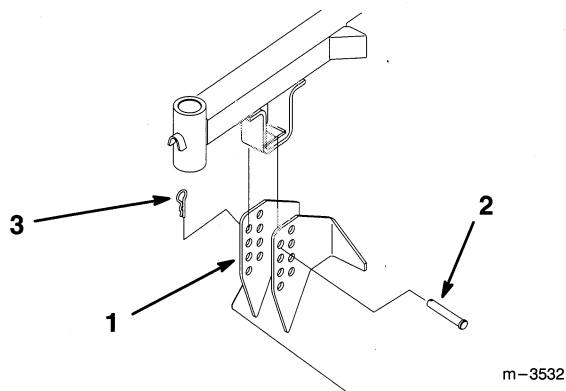

Figure 11
5. Remove hairpin cotters and clevis pins from mower hanger brackets and remove mower from carrier frame (Fig. 11).